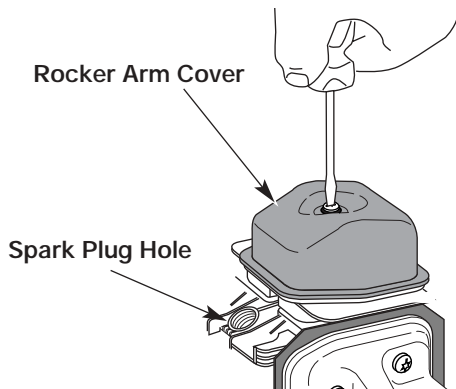

Fig. 30
7. Clean dirt from around the rocker arm cover. Remove the screw holding the rocker arm cover with a large flat blade screwdriver or Torx T25 bit (Fig. 30). Remove the rocker arm cover and gasket.
- The piston is at the top of its travel while looking in the spark plug hole (Fig. 30).